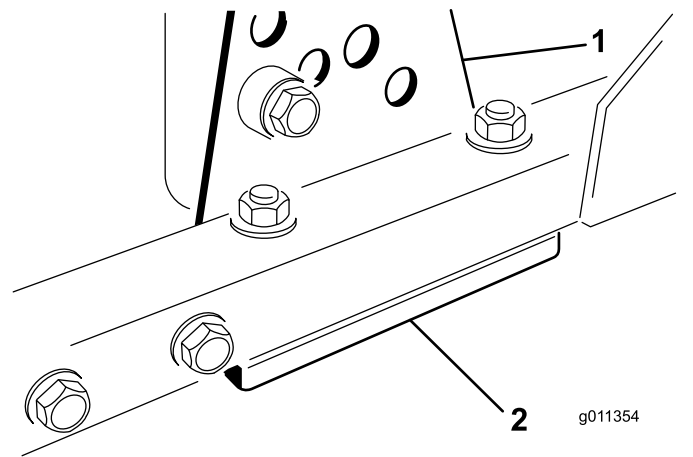

Figure 128
1. Remove the height-of-cut bracket, (front, left, or right) from the cutting-unit frame (Figure 128).
2. Adjust 1.5 mm (0.060 inch) shims and/or 0.7 mm (0.030 inch) shims between the cutting-unit frame and bracket to achieve the desired height setting (Figure 128).